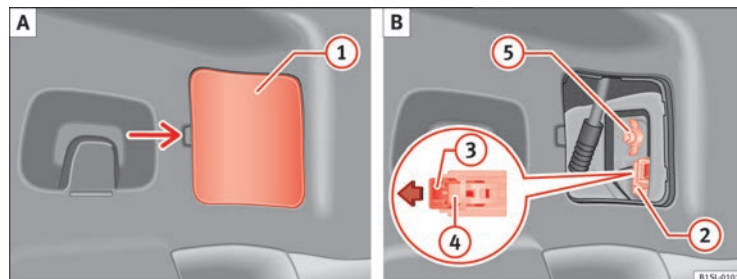

Fig. 153 On the side of the luggage compartment: TO: Remove the cover, B: Removing the tail light units
3. Carefully remove the cover ① towards the lever → Fig. 153 A.
4. Pull the release ③ in the connector ② in the direction of the arrow → Fig. 153 B. Use the screwdriver in the vehicle tool kit.
5. Press position ④ and remove the connector ② → Fig. 153 B.
6. Unscrew the wing nut ⑤ → Fig. 153 B.
13. Support the tail light with one hand in the assembly position and securely screw the wing nut with the other ⑤ → Fig. 153 B.
15. Insert the connector ② into the bulb holder and press the lock ③ on the connector in the opposite direction to the arrow → Fig. 153 B.